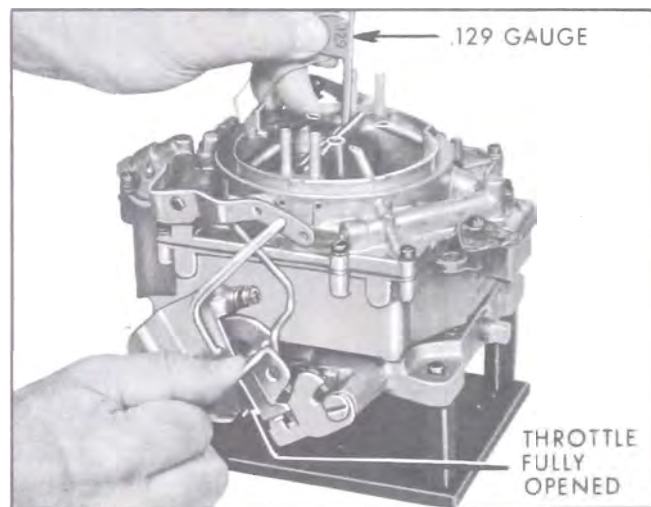

Figure 3-54—Checking Choke Unloader Adjustment
3. Choke Unloader Adjustment. Fully open throttle so that throttle arm contacts unloader tang on fast idle cam, then check clearance between choke valve and air horn dividing wall, using .129" Gauge (No. 30 drill). See Figure 3-54.